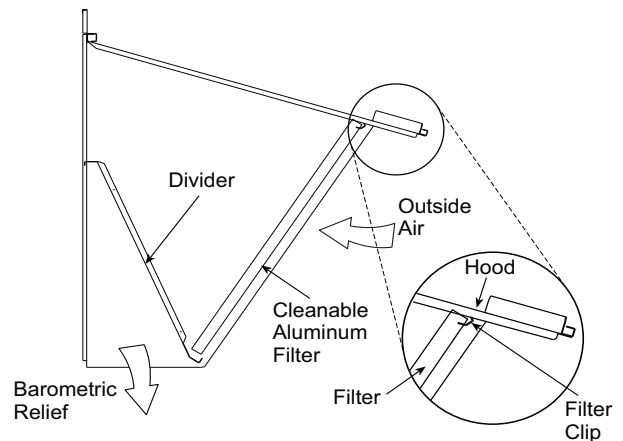

Fig. 14 — Economizer Filter Installation
5. Open the filter clips, which are located underneath the hood top. Insert the aluminum filter into the bottom filter rack (hood divider). Push the filter into position past the open filter clips. Close the filter clips to lock the filter into place. See Fig. 14.